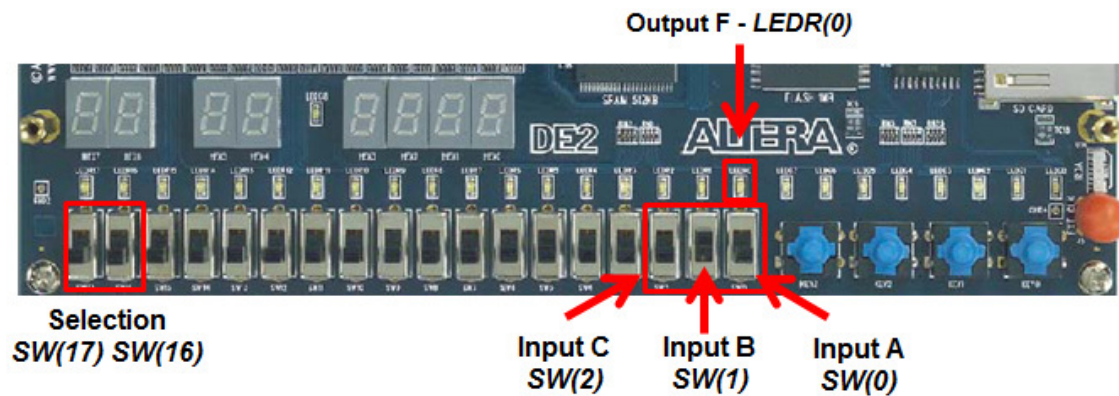

Figure 4.9. User interface – MUX input selection.
For instance, when the selection is set to “00” (SW_{17} and SW_{16} are switched off), the F output receives F1. In this case, if one of the three inputs C1, C2 or C3 is switched on, so C1 will evaluate to ‘1’, and LEDR(0) will light on. In Figure 4.9, the selection bits are represented by switches SW_{17} and SW_{16} , input C is SW_2 , input B is SW_1 , input A is SW_0 , and output F is LEDR(0). Table 4.1 shows all possible combinations for the multiplexer selection bits, and the corresponding output in LEDR(0).